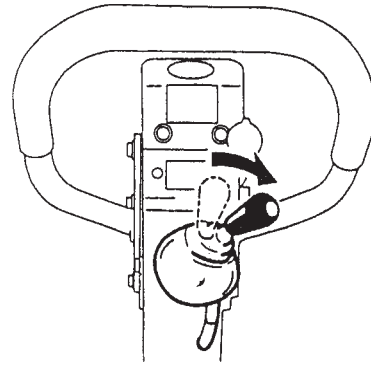

Figure 14. Throttle Lever (Stop)
2. Turn the **throttle lever** to the **STOP** position (Figure 14) to stop the engine. In a motor start, return the key switch to the **STOP** position (Figure 14) as soon as the engine stops.
1. Move the throttle lever quickly to the **STOP** position (Figure 14).